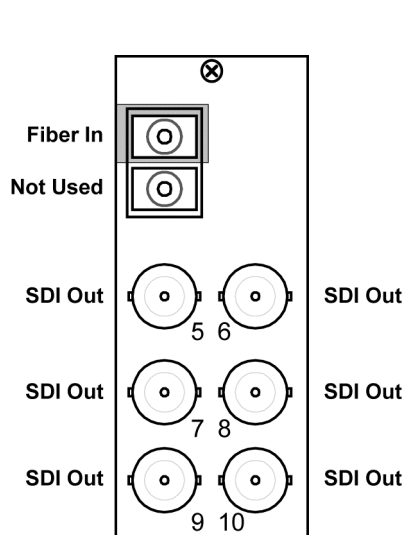

Figure 2.5 Cable Connections for the **RM20-9211-B** Rear Module
- **RM20-9211-B Full Rear Module** — Each 9211-OE occupies two slots and provides an optical input, and six SDI outputs. Refer to **Figure 2.5**.